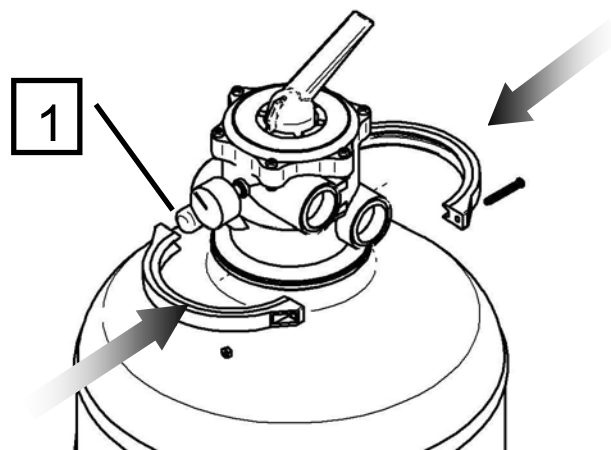

FIG. 9
- 3) Unscrew the transparent cap (1- Fig.9) on the multifunction valve.
- 4) Drain the water unscrewing the drainage tap (9). You can speed up the operation by opening the drainage valve (10). During this process you must ensure you do not allow beads to also drain away.
- 5) Close the drainage tap (9) and close the drainage valve (10).
- 6) Reattach the transparent cap (1- Fig.9) to the multifunction valve (1).